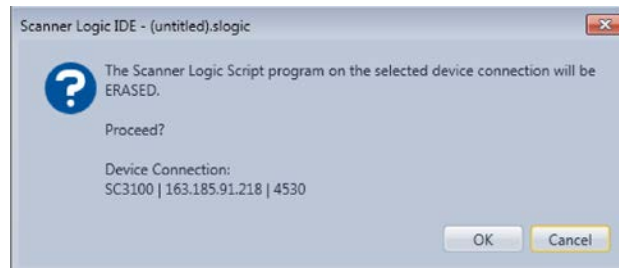

Figure 3.15—“Program on selected device connection will be ERASED” dialog
2. Click **OK** when the confirmation dialog (*Figure 3.15*) appears.